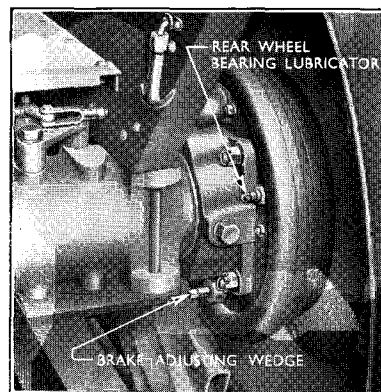

Figure 77
**To adjust the foot brake for lining wear** turn the adjusting wedge, see Fig. 77, in a clockwise direction, at the same time tapping the drum with a small spanner. As the shoes are expanded and touch the drum it will no longer emit a clear ringing sound; unscrew the adjuster carefully until the shoes are just clear of the drum and which, when tapped, gives a clear ring. Set each brake drum as above, testing the pedal travel to ensure it is not excessive.